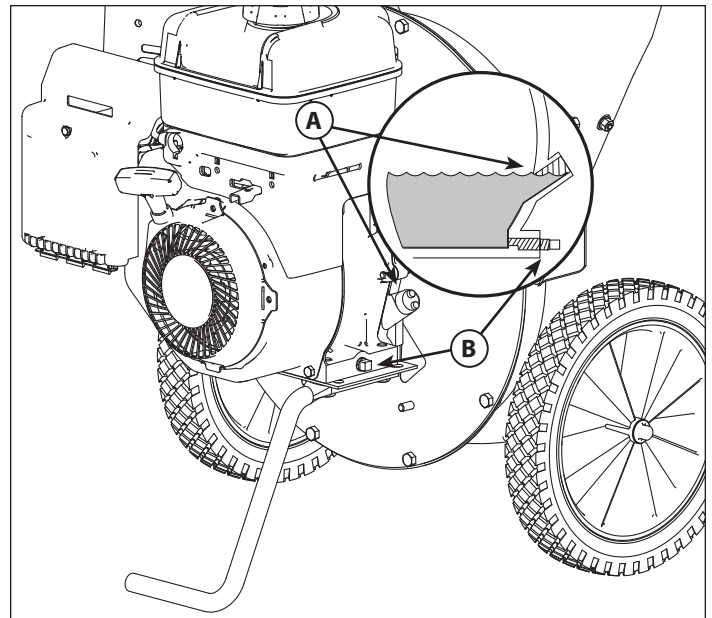

FIGURE 16 - Oil Fill and Oil Drain
Check the engine oil level at the oil fill and level check plug (A). **SEE FIGURE 16**
2. Remove the oil fill and level check plug (A) by twisting it counter-clockwise. The oil should be filled up to the mouth of the filler opening as shown in the **FIGURE 16** inset.
2. Remove the oil fill and level check plug (A) by twisting it counter-clockwise. **SEE FIGURE 16**
3. Place an oil drain pan below the engine and remove the oil drain plug (B). Allow the oil to drain completely. **SEE FIGURE 16**
4. Reinstall the oil drain plug (B). Tighten the plug to 125 inch pounds (14 Nm)
5. Add oil to the oil fill hole (A) until the oil level is even with the bottom edge of the oil fill hole. **SEE FIGURE 16**